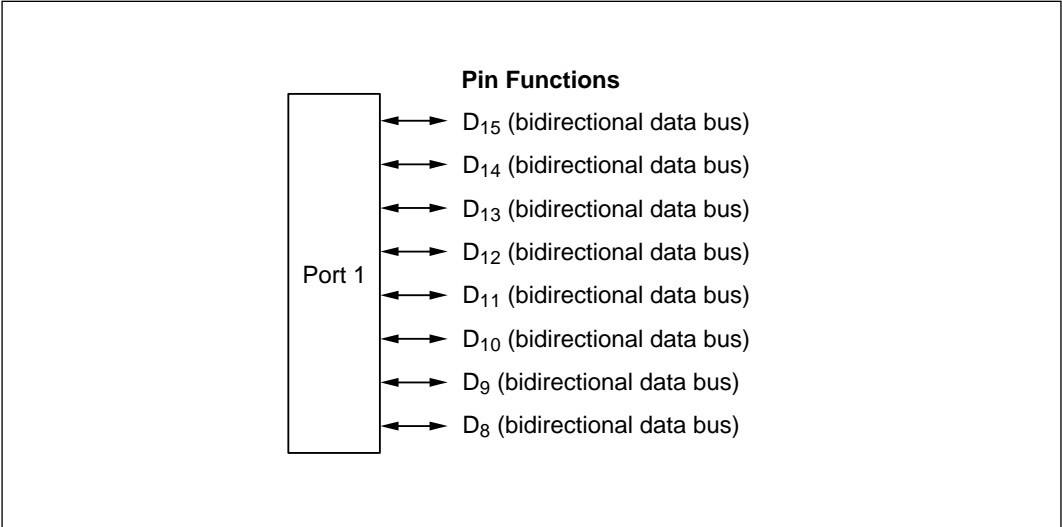

Figure 10-3 Pin Functions in Modes 1 to 6
(1) Pin Functions in Externally Expanded Modes (Modes 1 to 6): The settings in P1DDR are ignored. Port 1 automatically becomes a bidirectional data bus. Figure 10-3 shows the pin functions in modes 1 to 6.